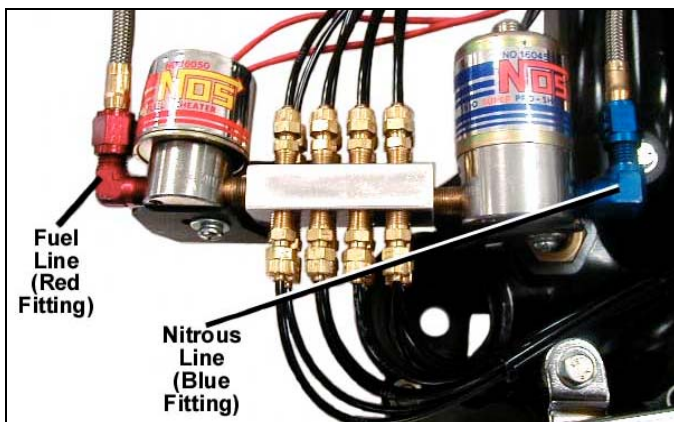
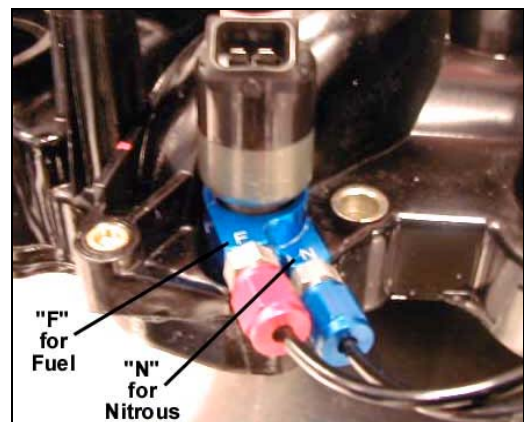

Figure 17
Figure 18
The metering block comes completely assembled and is important to identify the fuel and nitrous fittings. The fuel solenoid (7) P/N 16050NOS (smaller in size) is at the front of the engine and is connected to the upper passage of the distribution block. The upper fittings of the distribution block are therefore to be used for the fuel lines (lines with the red anodized fitting). The nitrous solenoid (6) P/N 16045NOS (larger in size) is at the back of the engine and is connected to the lower passage of the distribution block. The lower fittings of the distribution block are therefore to be used for the nitrous lines (lines with the blue anodized fitting). See Figure 17. The NOSzle is marked with an "N" for nitrous oxide and an "F" for fuel. The red anodized fitting is to be installed with the selected funnel jet to the "F" port of the NOSzle. The blue anodized fitting is to be installed with the selected funnel jet to the "N" port of the NOSzle. See Figure 18.